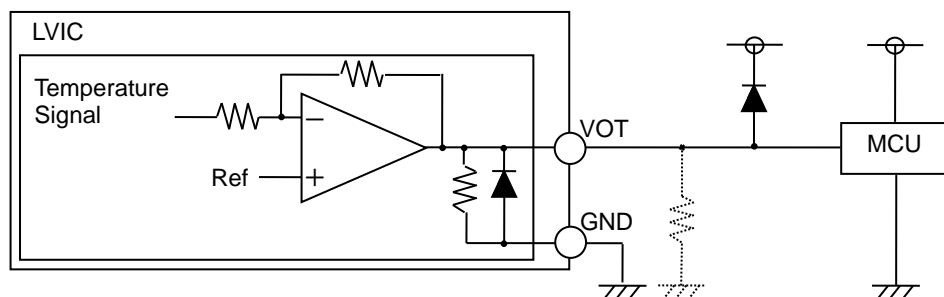

Figure 15. Example of VOT External Circuit
7) VOT pin (Refer to Figure 15)